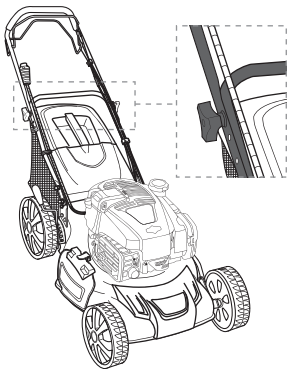

Fig. 19, low position
Align the mounting holes and adjust the upper handle bar (4) to a proper height according to your needs (Figs. 19, 20, 21). Secure the connection with the mounting sets (8) afterward.